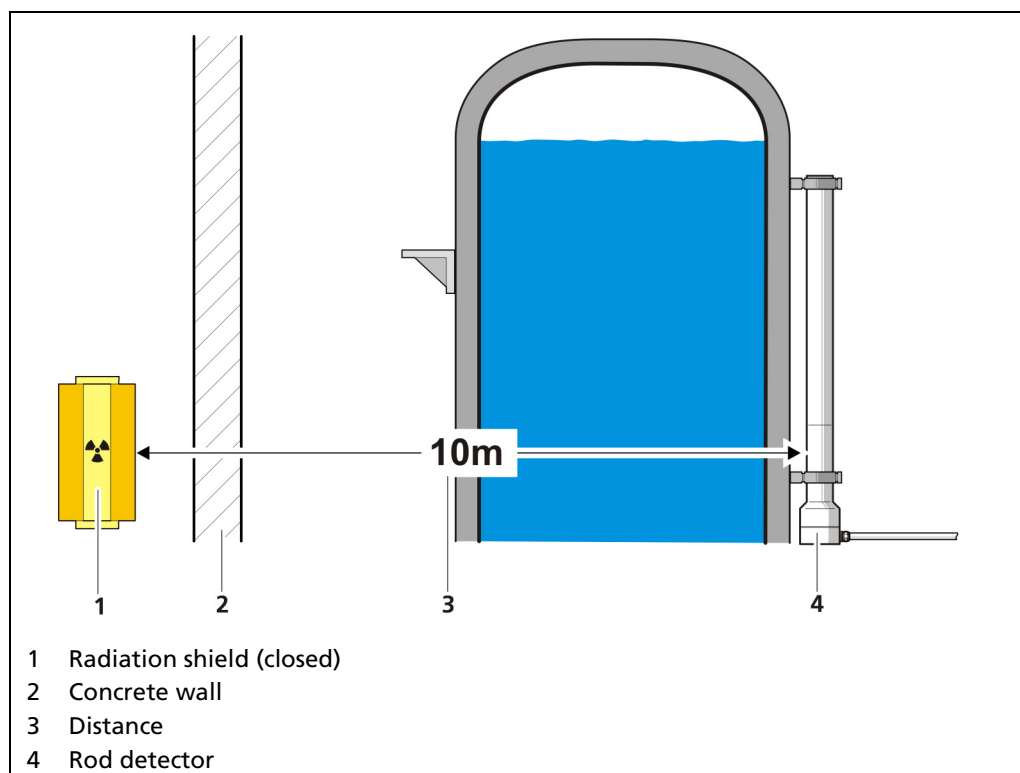

Fig. 75 Conditions during background determination
A closed shield also results in measurable residual radiation, which can falsify the measurement of background radiation. For this reason, it is recommended that the detector (Fig. 75, item 4) be determined at a suitable distance (approx. 10 m) or behind a thick concrete wall (Fig. 75, item 2).